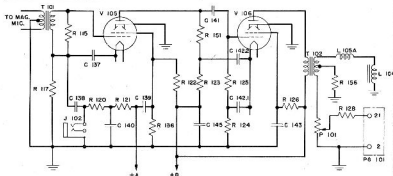

Fig. 38. Radio Transmitter BC-684-A: Functional Diagram of A-f Amplifier
f. A-f Amplifier and Microphone Circuits. The essential circuits of the audio-frequency amplifier and the microphone circuits are shown in Fig. 38.